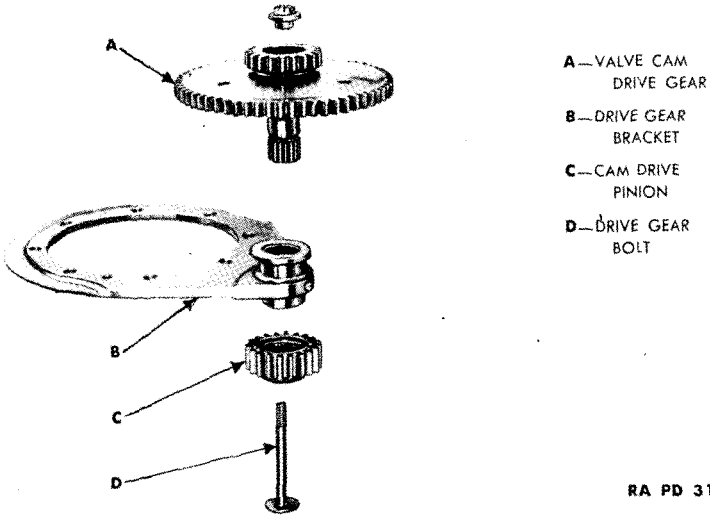

Figure 35 — Cam Drive Gears Disassembled
a. Disassembly. Remove screws which attach cam drive gear bracket to the crankcase main front section. Remove bracket cam drive gear and pinion assembly (fig. 35). Remove cam drive gear bracket spacer and splined cam bearing ring spacer. Lift off cam. Do not remove cam bearing ring unless replacement of this part is found necessary. Remove cotter pin, nut bolt, cam drive gear, and pinion. Remove crankshaft front main bearing outer race from inner bore of crankcase main front section. Remove piston cooling jets using wrench (5A2184).